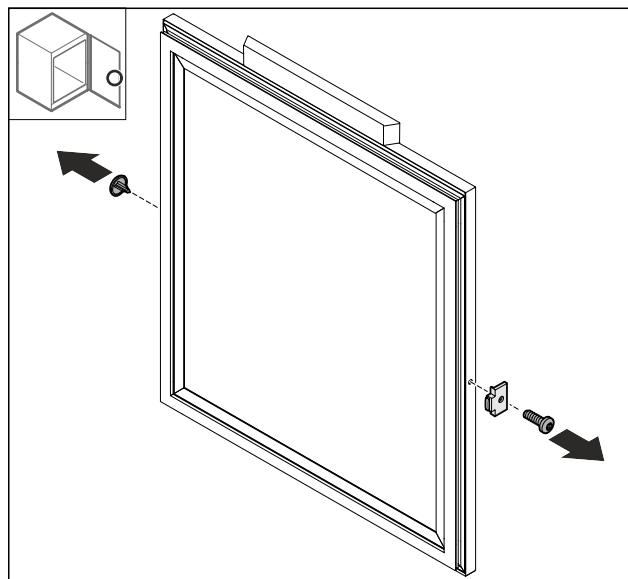

Fig. 48
- Remove the Fig. 48 (1) cover.
- Pull off the door stopper Fig. 48 (2).